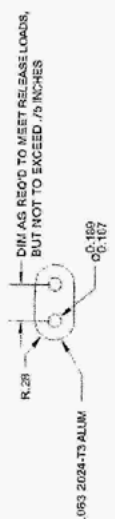

FIGURE 2.
- a. Tow release spring tension is checked by applying a force of 5-20 lbs. (10-30 lbs. for C.G. hook install) at the end of the release arm. The hook should then release. If tension is not within this tolerance, the spring should be replaced. See Figure 2 & Service Bulletin SA-001.
- c. Check release mechanism by applying force of 5-20 lbs (10-30 lbs. for C.G. hook install). Ref. page 32, section 3.d and Figure 2.